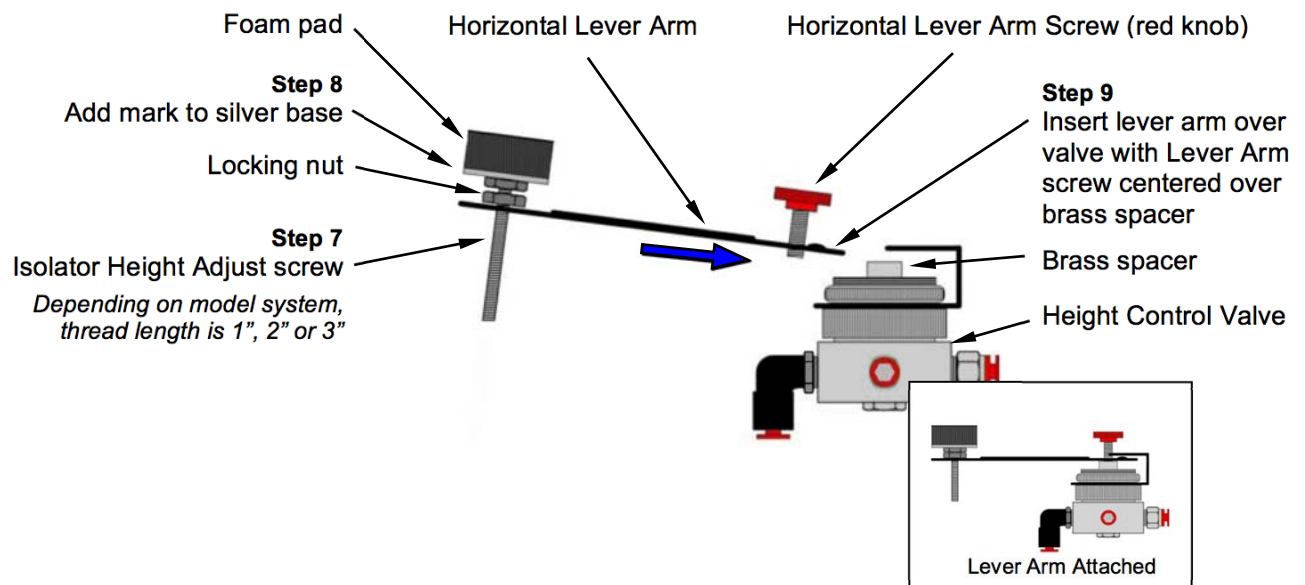

Figure 6, Attaching Horizontal Lever Arm
**Step 9** Insert *horizontal lever arm* onto *height control valve* ensuring the end of the **HORIZONTAL LEVER ARM SCREW** fits over the center of the *brass spacer* located on the top of the valve as shown in figure 6 above.